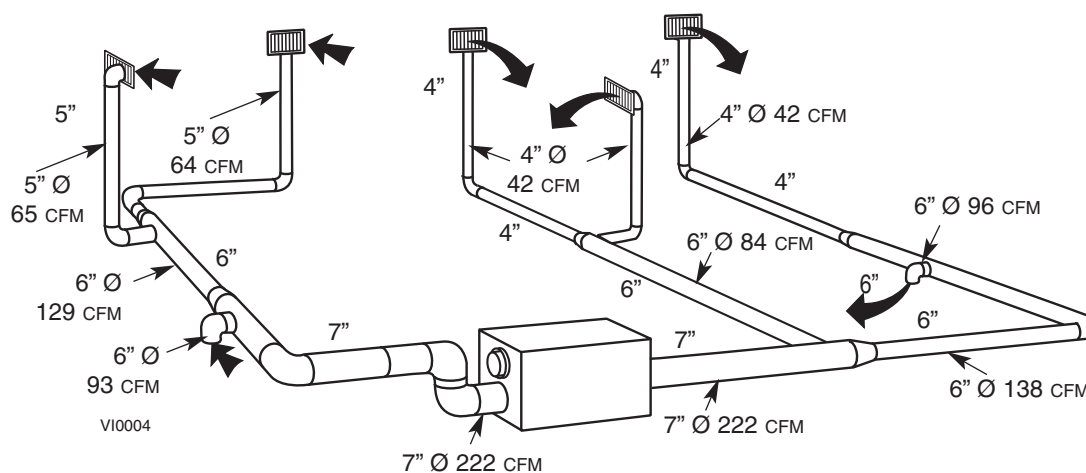

Figure 9
5.3.2 Example of a design for a fully ducted system for a unit having a high speed performance of 222 cfm (See figure 9).